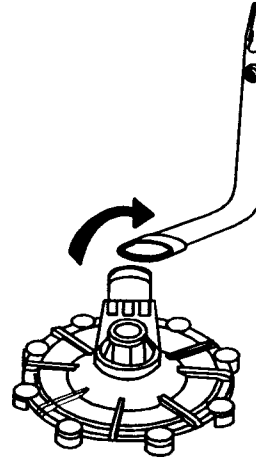

Fig. 32
3. Rotate the lower end of the tube either left or right off the pump nozzle. (Fig. 32)